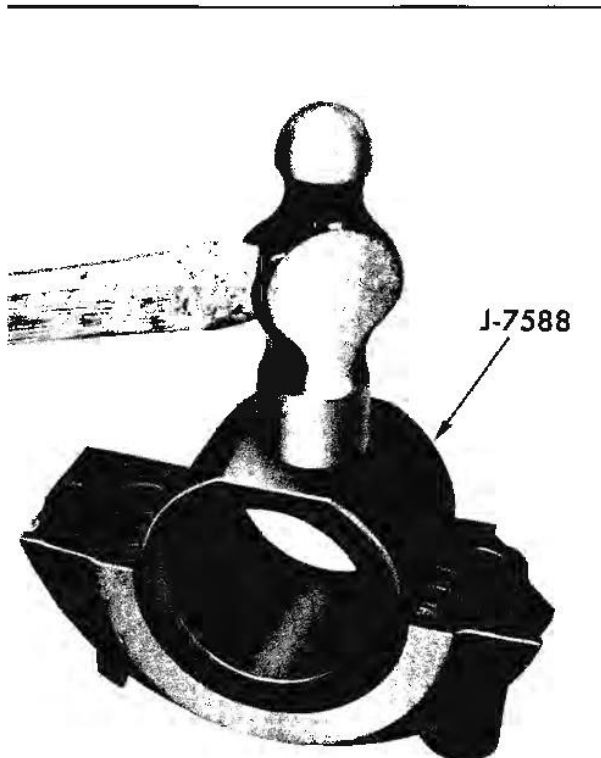

Fig. 6-131 Forming New Seal in Cap
6. Form a new seal in the cap (Fig. 6-131).
7. Remove the newly formed seal from the cap and cut four (4) pieces approximately $3/8$ " long from this seal.
9. Form another new seal in the cap (Fig. 6-131).